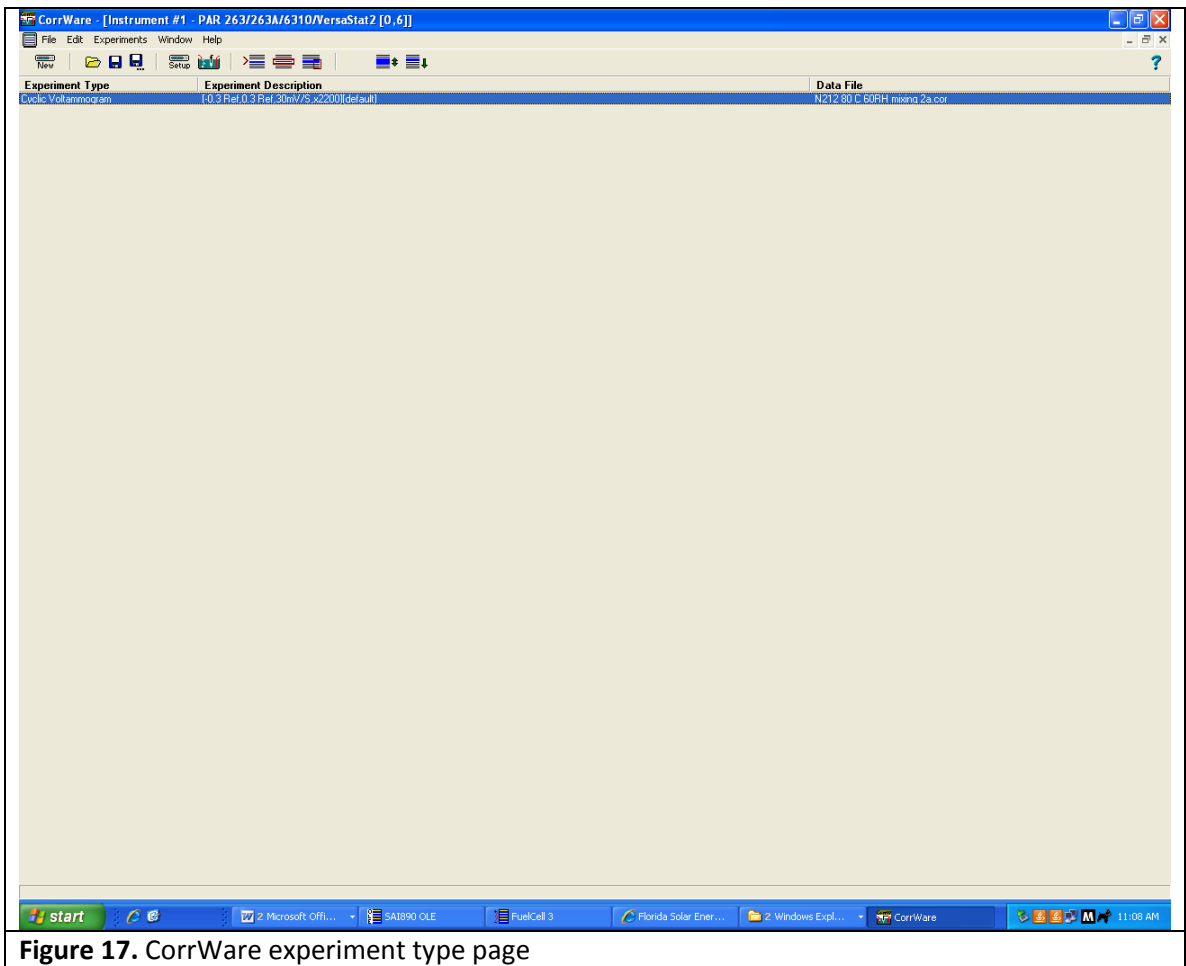
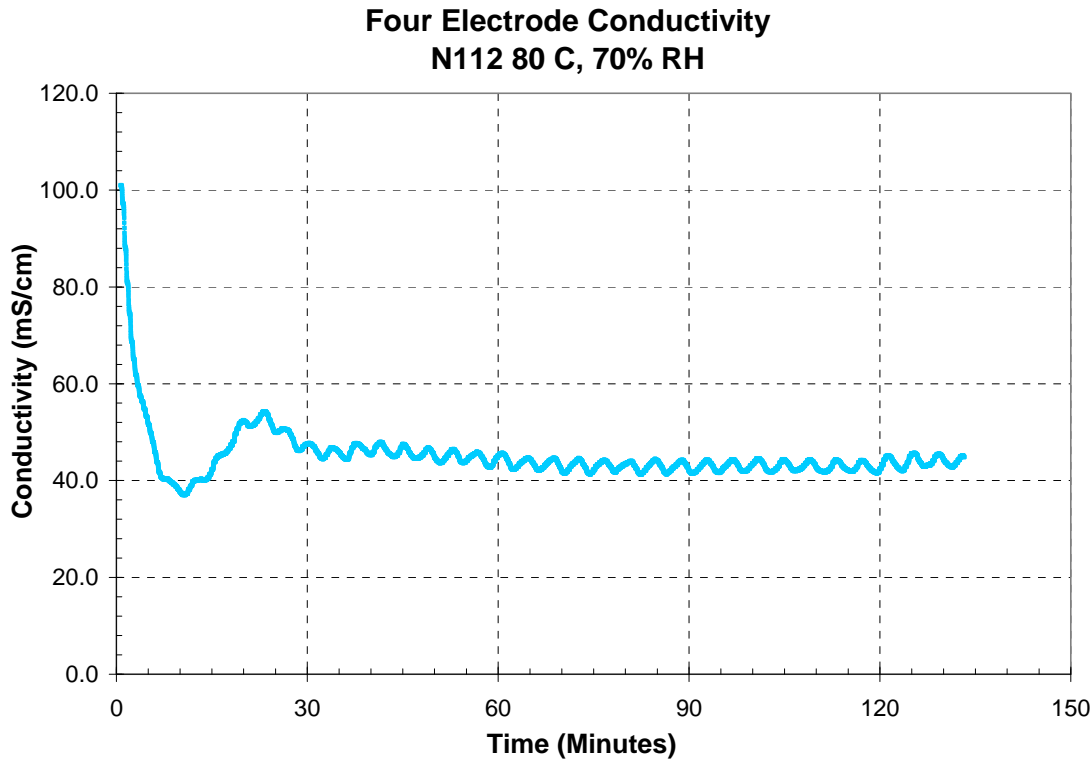

Figure 17. CorrWare experiment type page
Figure 20. Sample conductivity plot.
1. Select the Cyclic Voltammogram experiment (Figures 17 and 18). Choose file name and where it will be saved. Then measure selected lines. In Figure 20, a typical plot is shown. When an appropriate amount of time has passed (one hour for each humidity and two hours for start up) press stop (the red octagon) to stop the experiment.
3. In the new .xls file open the “RH&4ElecCondVsTime” tab. This gives a plot of conductivity vs time. An example is shown in Figure 20. By examining this plot, it is possible to determine when the membrane’s conductivity reached steady-state. In the plot in Figure 20, steady state was reached around 60 minutes. If steady-state is not reached, repeat the measurement using a new file name until a steady-state is reached.
4. Open the “data” tab in the .xls file. The final column (G) is the calculated 4 electrode conductivity. The file time is in column D. Take an average of the conductivity values that have been obtained in steady state. This value is the conductivity of this membrane in the conditions under study.